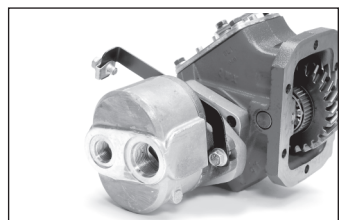

Fig. 10
13. Install the pump with the “bulge up”\*. Attach the P.T.O. heat shield bracket (379862) to the pump bolt as shown in Fig. 10 (suction port side closest to transmission). Torque pump bolts to 32-37 lbs. ft. [45-50 N.m.]